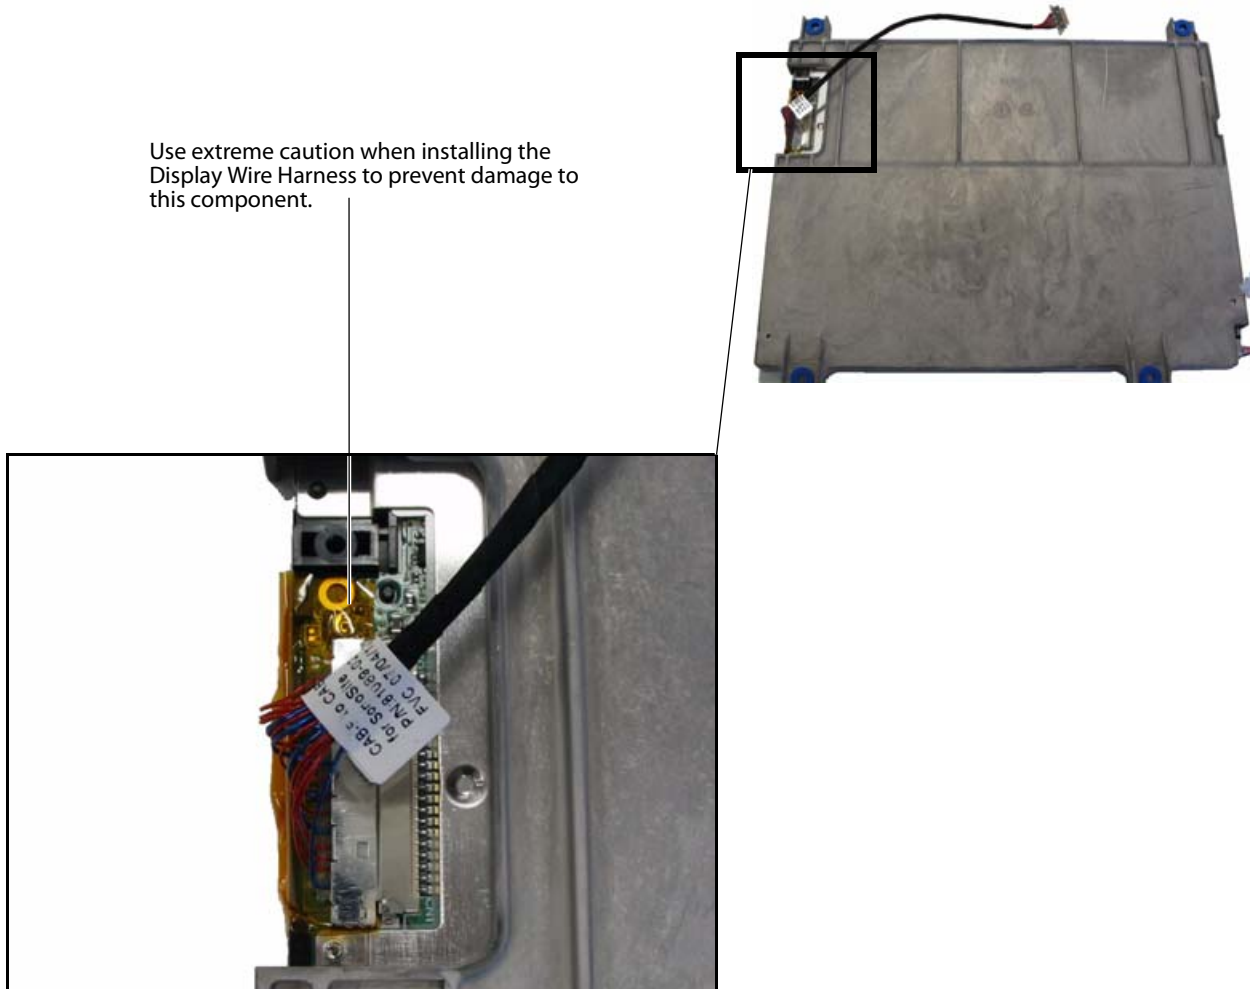

Figure 4.6 Display Wire Harness Installation
- 1 Carefully reconnect the Display Wire Harness between the bottom of the Superplug Assembly and the LCD as shown in Figure 4.6.